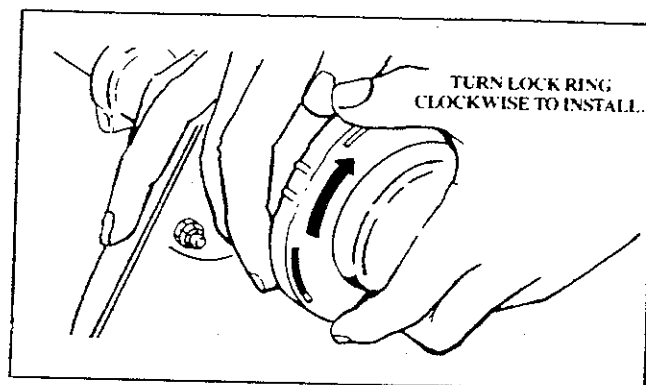

Figure 19
- g. Check to be sure the lock ring is properly installed by attempting to turn the ring counterclockwise  and pulling on it. Reinstall properly if the lock ring comes off. Figure 19.